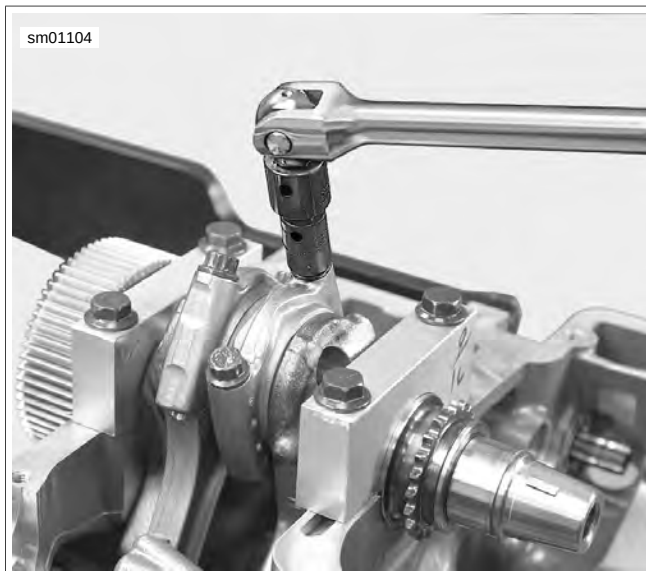

Figure 3-100. Loosen Rod Cap Fasteners
4. See Figure 3-100. Loosen connecting rod caps fasteners.